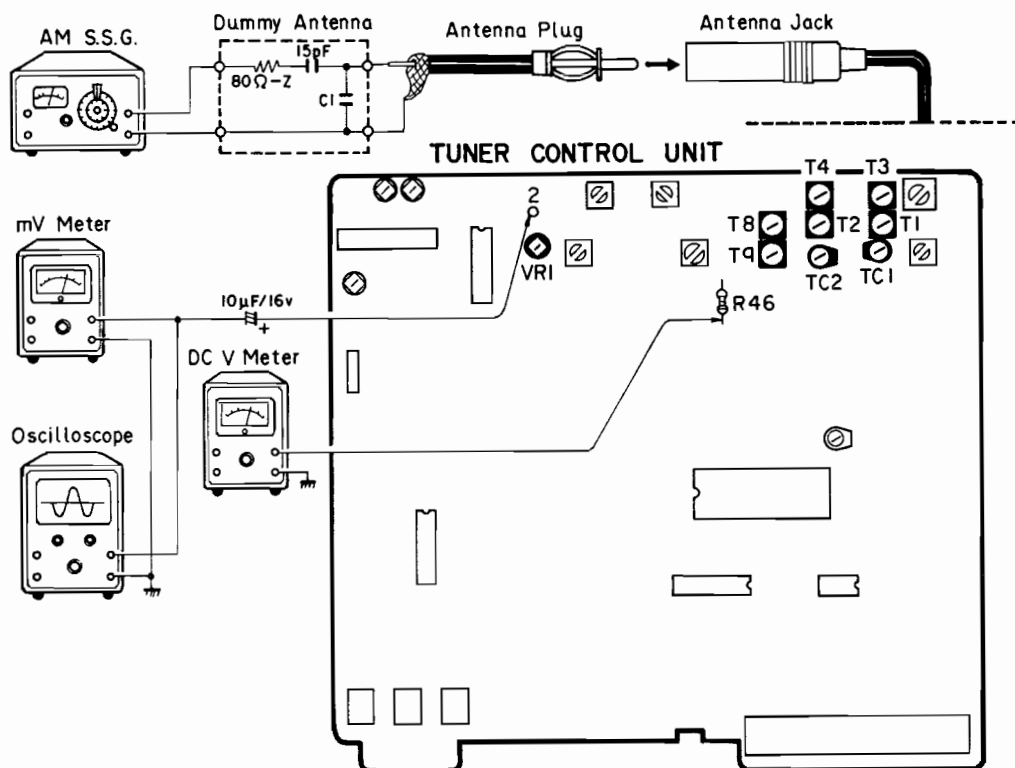

Fig. 32
- Connection Diagram (shown in Fig. 32)